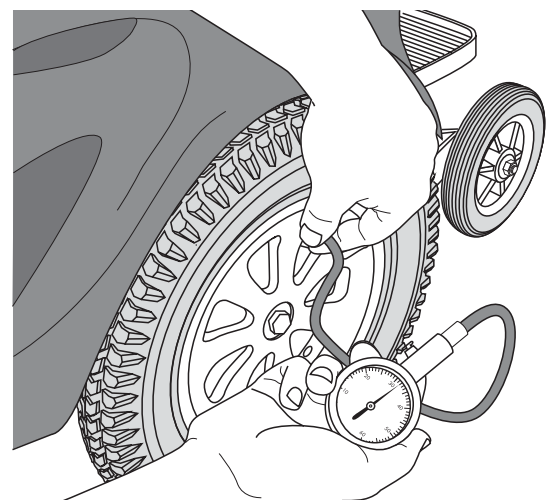

Figure 33. Check Tyre Pressure
- Make sure the drive tyres are inflated to 30 – 35 psi. See figure 33.